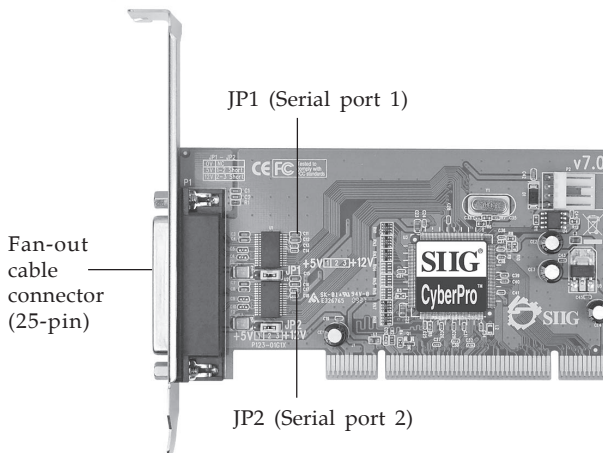

Figure 1: Layout
5. Set **JP1** and **JP2** jumper settings to the desired voltage only if your serial device needs additional power from the serial port. However, most serial devices do not require additional power. For more information see **Figure 1** on page 2. The jumpers can be removed if power is not required.